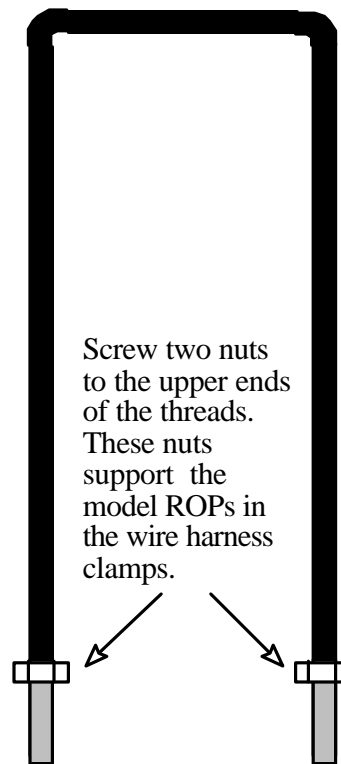

Figure 6: Position of support nuts
5. Place one 1/4-inch nut on each end of the model ROPS you have just constructed. Screw each nut all the way up to the end of the threads on each side of the rod and finger tighten. These two nuts act as spacers that keep the rod from falling through the holes in the clamp. (See Figure 6.)